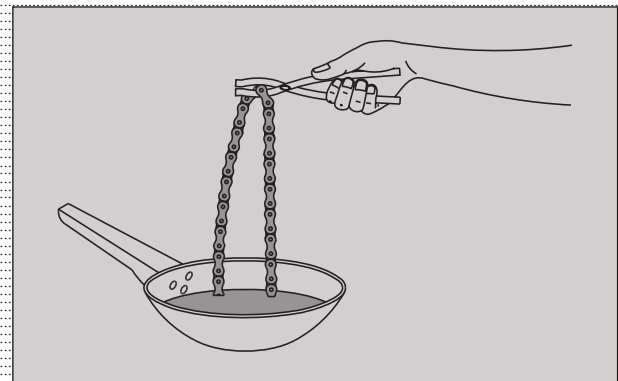

Fig. 2.101
- Lubricate the chain by soaking in this mixture for minimum 15 mins. (Fig. 2.101)